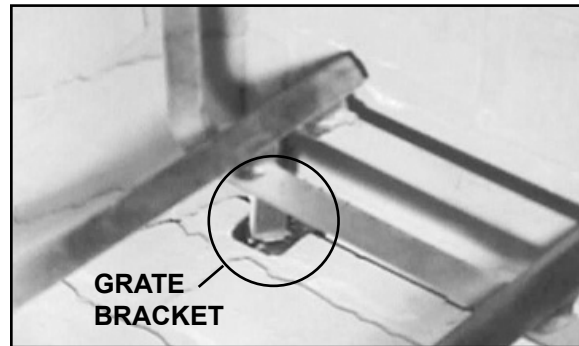

Figure 4.17 Grate Secured in Grate Bracket
- Place grate into grate brackets. See Figure 4.17.